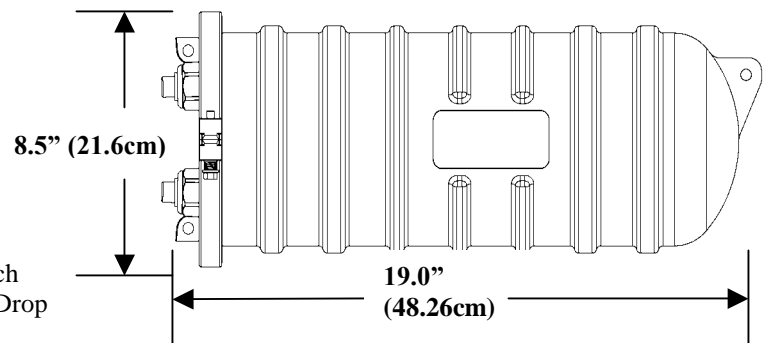

Figure 4
3.2 Closure Dimensions Refer to Figure 4